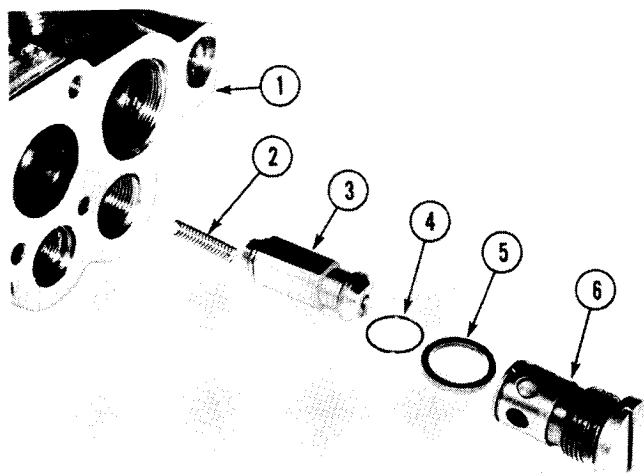

Figure 11-82
Lubricate the "O"-ring (4, Fig. 11-82) and seal ring with petroleum jelly and install on the seat (6). Slide the spring (2) and valve (3) into the valve (1). Install the seat and tighten securely. Repeat the above procedure for the remaining valve.